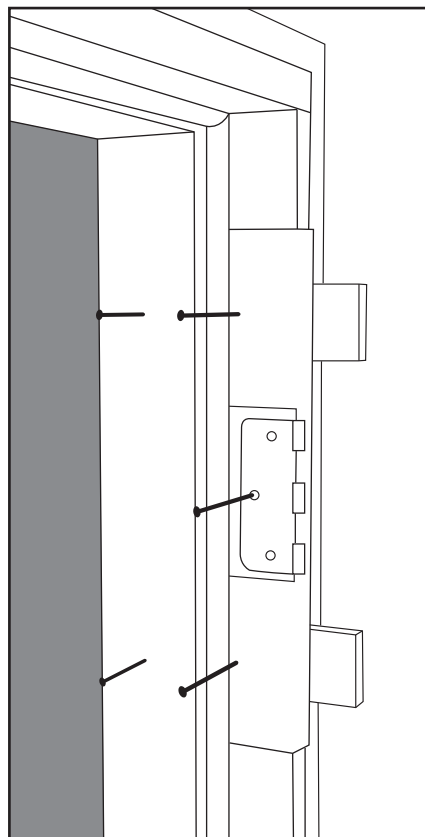
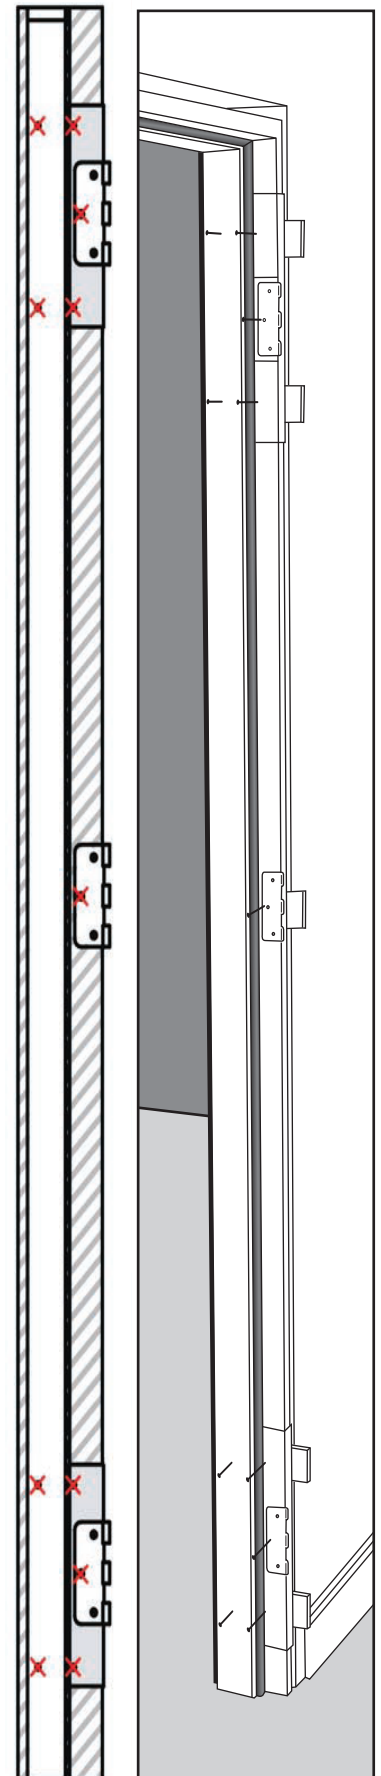

FIG. HS-05
FIG. HS-04
5. Verify that the door and door jamb are still true. If so, secure the door jamb with the Hinge Shield attached to the rough frame with the supplied screws. Drive screws until the heads seat flush against the door jamb. Screw placement is indicated in (FIG. HS-04) with X's and illustrated in (FIG. HS-05).
6. If the door is not true, take all necessary steps to correct this before proceeding. Once the door is true, secure the door jamb as detailed in step 5 and in (FIG. HS-05).
8. Remove one of the screws attaching the middle hinge. Shim this spot between the door jamb and rough frame. Pre-drill this hole and then install one of the 3-1/2 in. screws until it is flush with the door (FIG. HS-04).